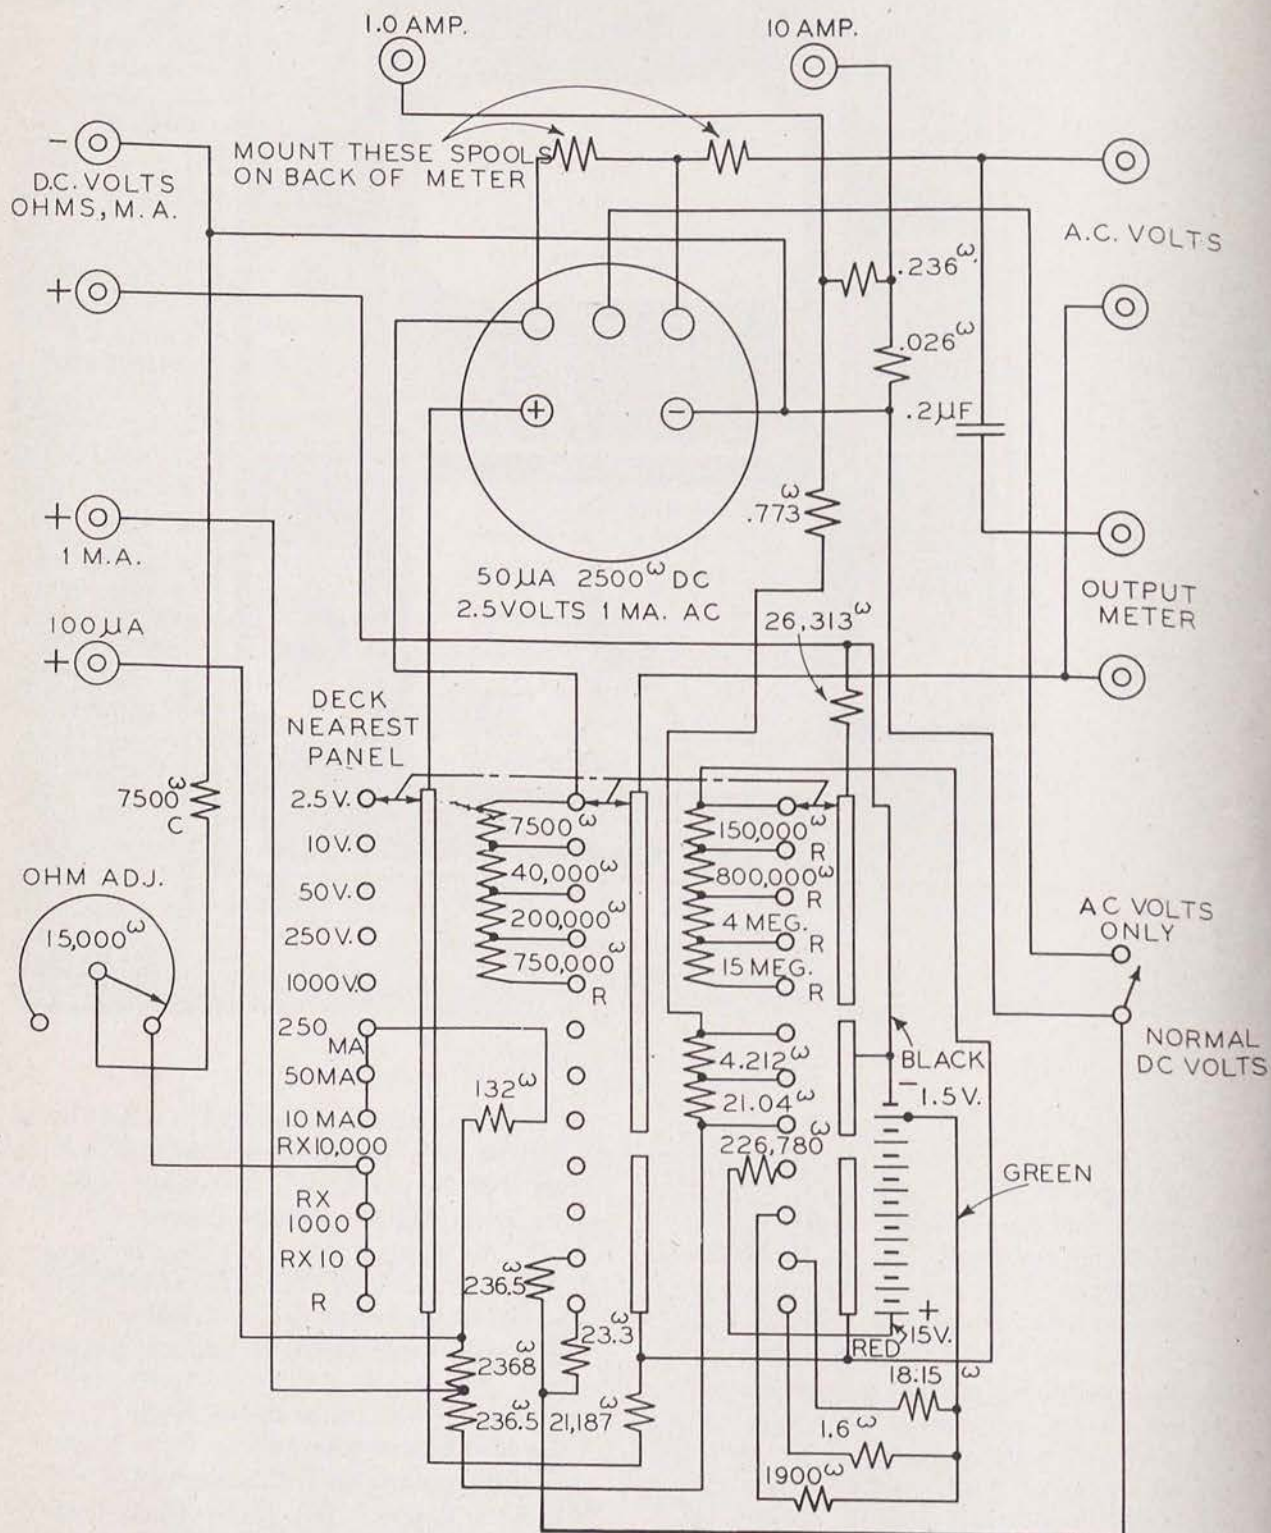

Figure 7. Weston analyzer, model 772, schematic.
l. RESISTANCE MEASUREMENTS. (1) Insert both test leads in OHMS jack.
(2) Set toggle switch to the OHMS position.
(3) Rotate range-selector switch to the range desired.
(4) Short the test leads together and adjust to zero ohms by rotating OHMMETER ADJUSTER knob.
(5) Take resistance readings on top scale, then multiply using factor in accordance with selector switch position.
n. SCHEMATIC ANALYSIS. Figure 7 shows the schematic diagram of this analyzer. This diagram is to be used only when it is necessary to make emergency repairs on the meter which have been authorized by the officer in charge. The following discussion will be limited to the most important parts of the analyzer.
(1) The selector switch consists of three gangs with 12 contacts each. These contacts control the selection of ranges employed for voltmeter, ohmmeter, and milliammeter operation.
(2) The a-c toggle switch is used when measuring any a-c circuit.
(3) The ohmmeter circuit is of the common type with two 7½-volt batteries as a source of power, and various series resistors. The current adjustment for the different ranges is accomplished by setting the 15,000-ohm potentiometer at the proper point, for full-scale deflection when the test prods are shorted together.